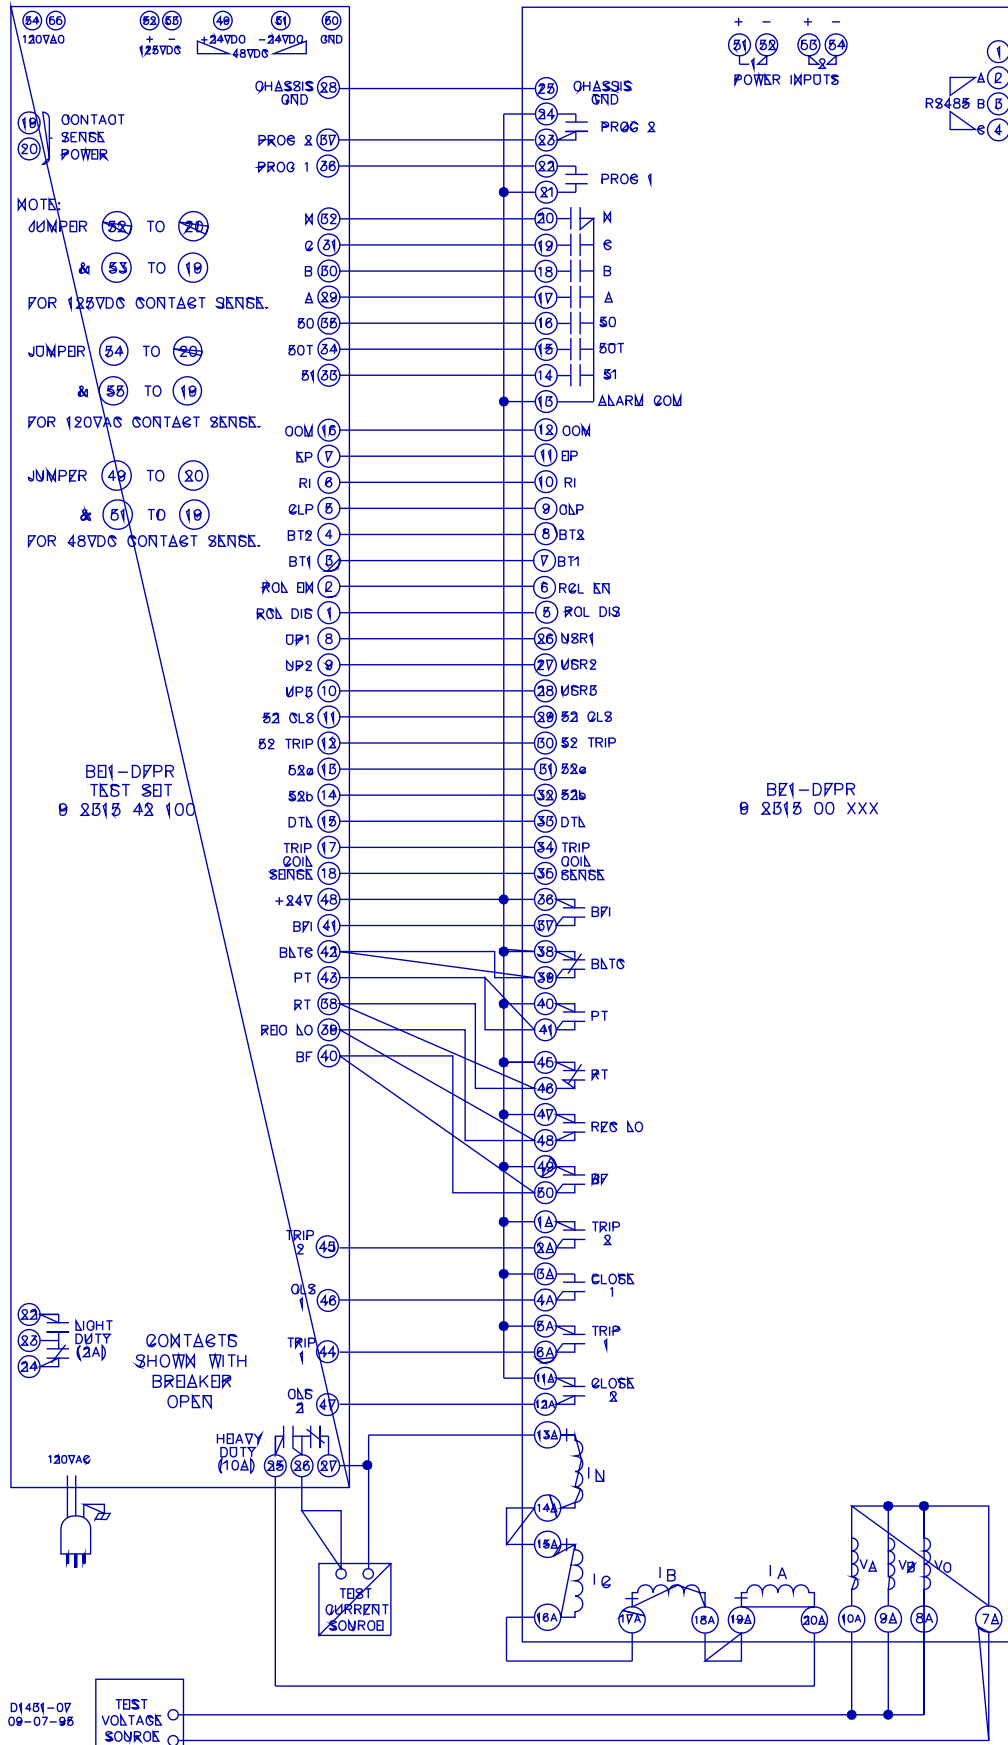

Figure 5-5. Test Setup Diagram
Testing BE1-DFPR relays requires that they be isolated from the controlled system. A bench-test setup that would be appropriate is illustrated in Figure 5-5.
- Step 1. Connect the relay to the test set as shown in Figure 5-5.
- Step 4. Close (UP) the trip coil sense (TCS) switch on the test set and open (DOWN) all other input switches.